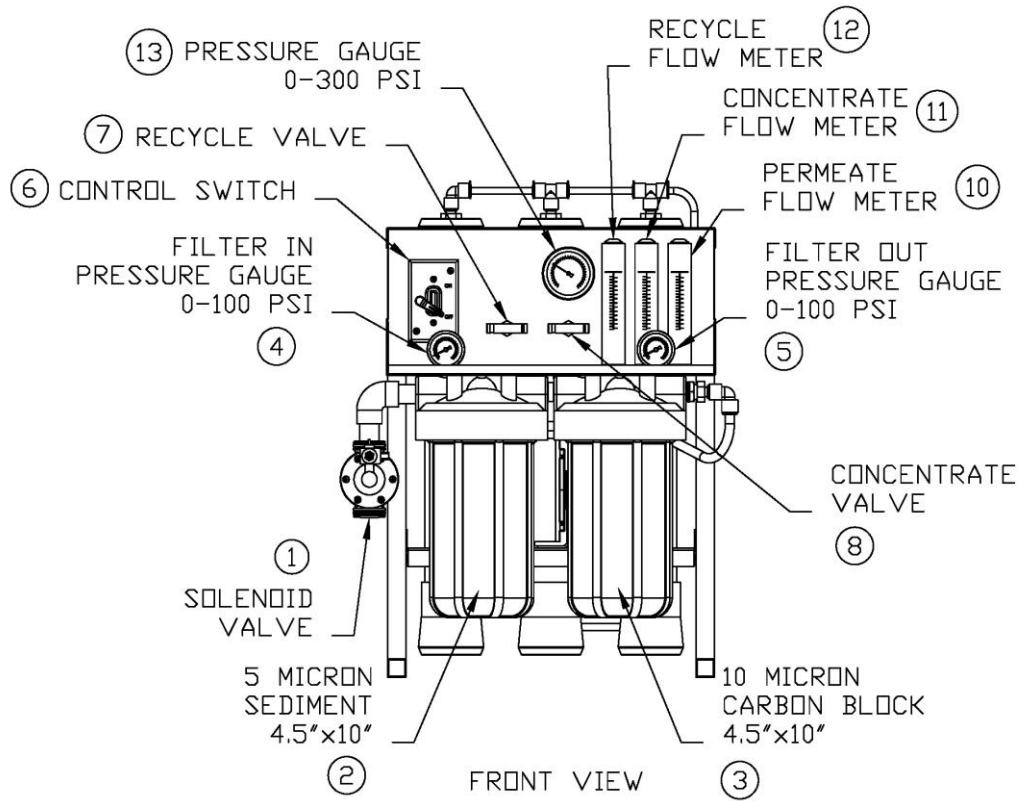

FIGURE 1B
2. Fully open the concentrate valve #8 (Counter Clockwise). (Figure 1B, Page 13)
3. Fully close the recycle valve # 7 (Clockwise) (If Applicable). (Figure 1B, Page 13)
5. Turn the feed water on and let the system purge until no visible bubbles appear from concentrate flow meter #11. (Figure 1B, Page 13)
3. Fully close the recycle valve # 7(Clockwise)(If Applicable). (Figure 1B, Page 13)